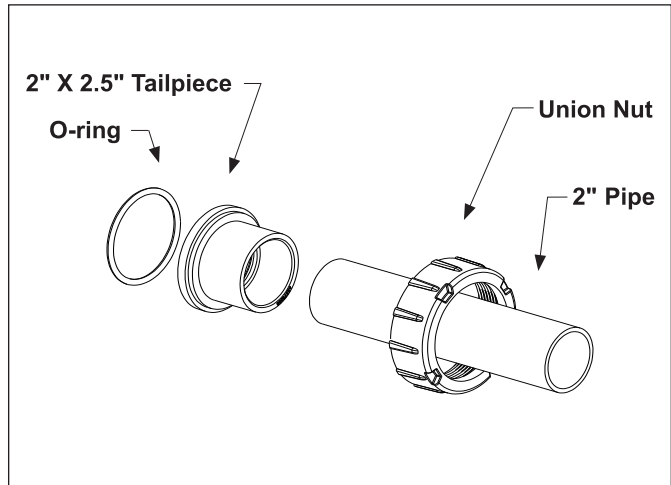

Figure 2. 2" X 2.5" Assembly Shown Connecting a 2" Schedule 40 Pipe
- a. For 2" pipe size, attach the slip fit side of the tailpiece to the end of the 2" pipe as shown in Figure 2.